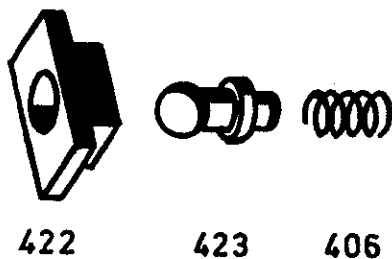

Fig. 26
5. Insert circlip (415) into radial groove of main shaft. Circlip should fit tightly in groove. For this reason, the ring is available in two different sizes 2.4 and 2.5 mm thick.
6. Glue one compression spring (406), one ball pin (423) and one thrust piece (422) together with grease (ball pin seated in thrust piece as shown in Fig. 26).